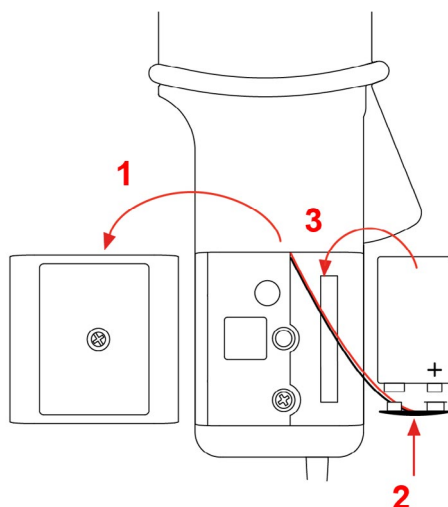

Figure 3
1. Using a screwdriver, remove the battery compartment cover (1) from the back of the housing (see Figure 3).
2. Connect the battery to the snap-on connector (2), observing polarity.
3. Place the battery into the battery compartment (3).